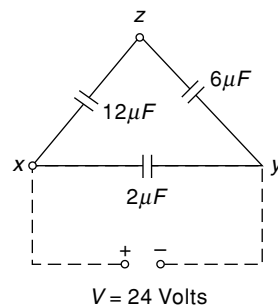

Fig. 1.40 Circuit of Ex. 1.32
1.32 In the network of Fig. 1.40, find the capacitance between points x and y . Also find the charges on the three capacitors. Assuming the potential of y to be zero, find the potential at z .